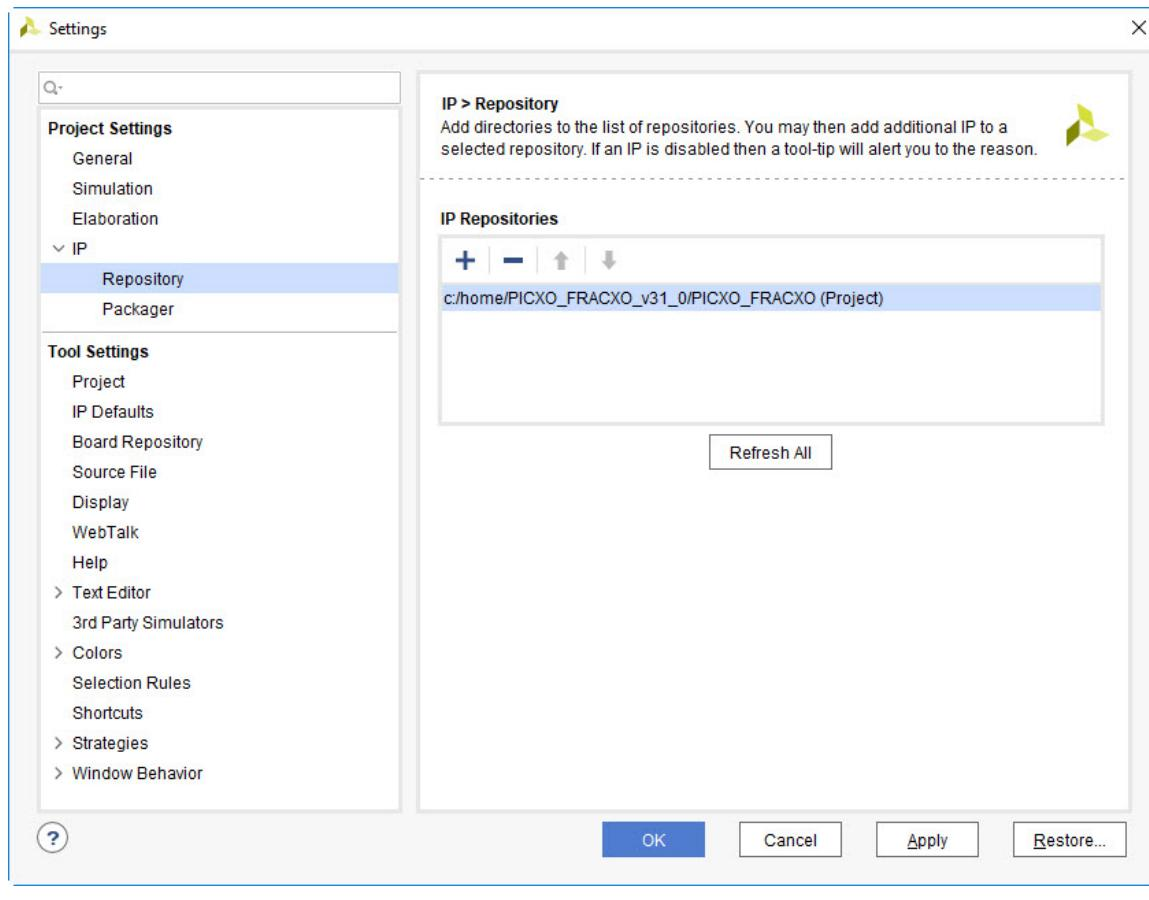

Figure 18: Project Settings
2. Add the IP repository to the project by selecting **Tools > Project Options**, select **IP** on the left pan, click **Add Repository**, and select the **PICXO\_FRACXO** folder (Figure 18).